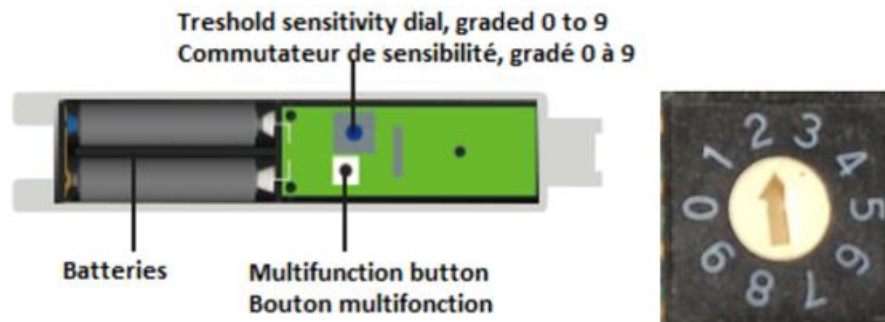

Figure 22
3. Based on the result (too sensitive/not sensitive enough), you must modify the factory base settings on the threshold sensitivity dial (**see figure 22**).